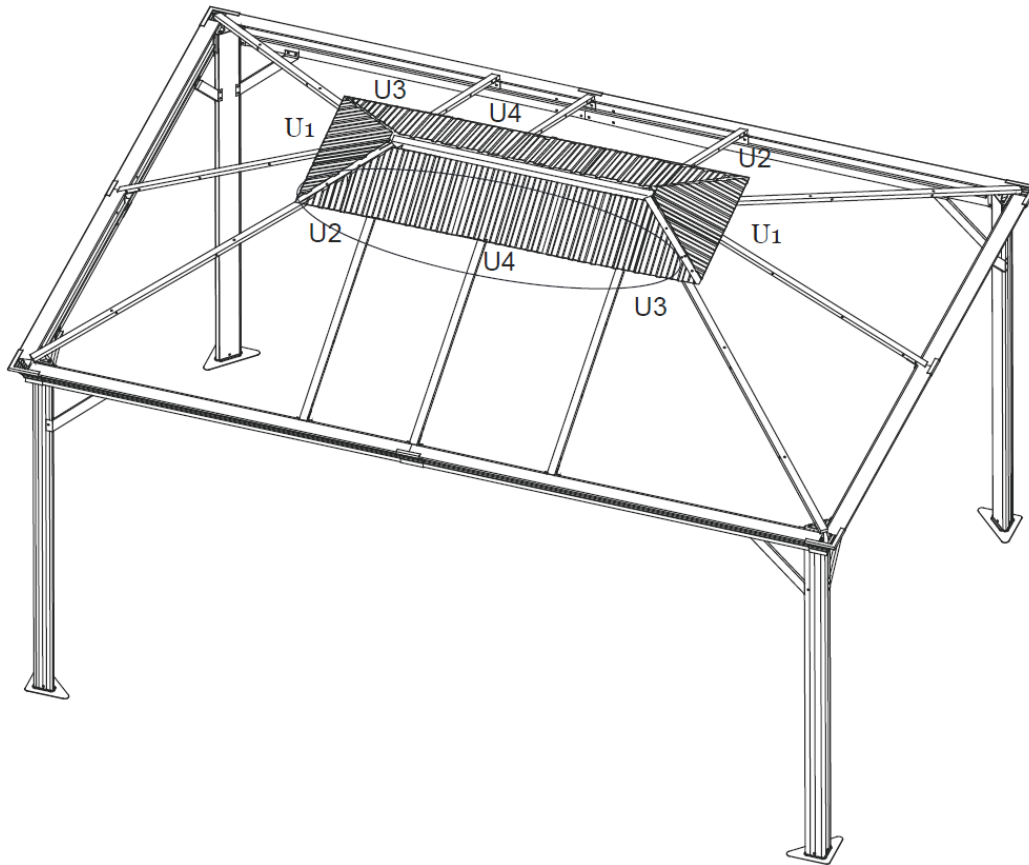

Figure 10-3
Step 10C: Repeat for opposite long and short sides. **Tighten all Bolts.** See Figure 10-3.